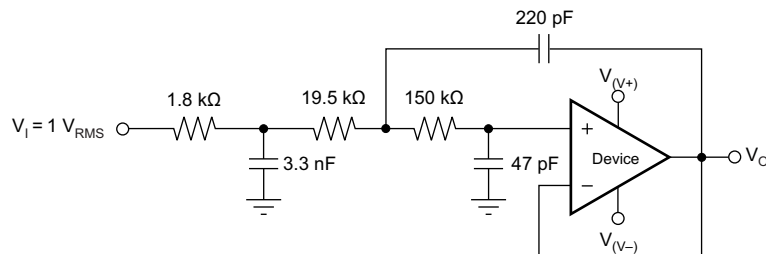

図 43. OPAx354-Q1 Configured as a Three-Pole, 20-kHz, Sallen-Key Filter
3. Using a noninverting filter topology, such as the Sallen-Key (see Figure 43).